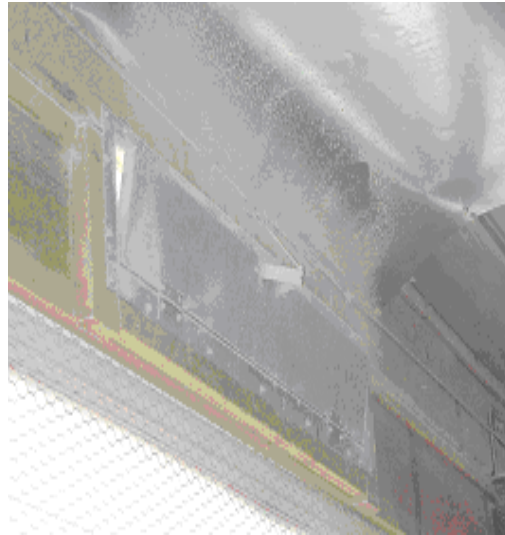

Figure 3. Typical vent box used for regulation of static pressure in turkey buildings.
1. Air must be controlled as it enters the building. This is best achieved by mounting rectangular vent boxes along the upper part of sidewalls that automatically adjust to variations in negative pressure. Proper installation of vent boxes will direct the incoming air slightly upwards where it will mix with warmer air and gently fall to bird level (Figure 3).